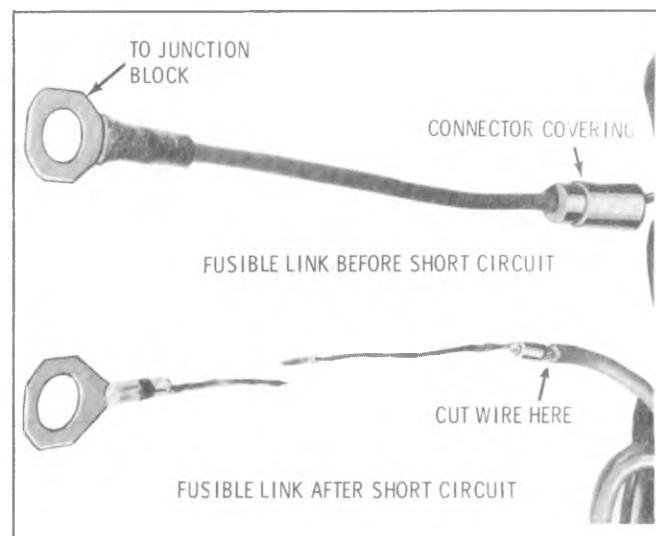

Fig. 8-37--Fusible Link
FUSIBLE LINK (FIG. 8-37)
3. Cut harness directly behind connector to remove damaged fusible link (fig. 8-37).